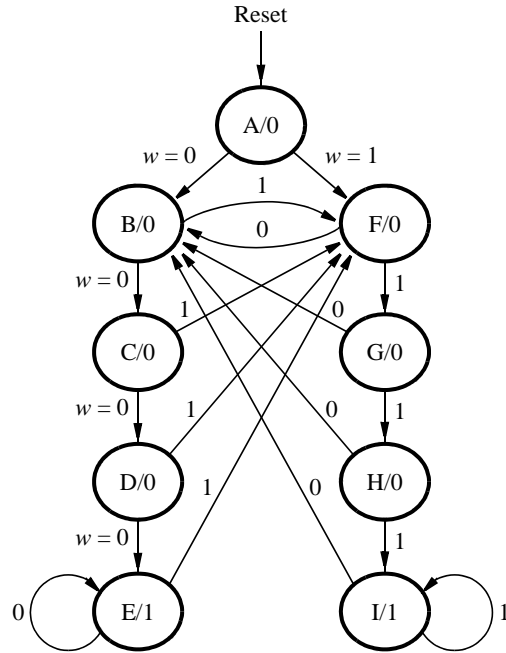

Figure 2: A state diagram for the FSM.
A state diagram for this FSM is shown in Figure 2. For this part you are to manually derive an FSM circuit that implements this state diagram, including the logic expressions that feed each of the state flip-flops. To implement the FSM use nine state flip-flops called y_8, \dots, y_0 and the one-hot state assignment given in Table 1.
For this part you are to write another style of Verilog code for the FSM in Figure 2. In this version of the code you should not manually derive the logic expressions needed for each state flip-flop. Instead, describe the state table for the FSM by using a VHDL CASE statement in a PROCESS block, and use another PROCESS block to instantiate the state flip-flops. You can use a third PROCESS block or simple assignment statements to specify the output z . To implement the FSM, use four state flip-flops y_3, \dots, y_0 and binary codes, as shown in Table 3.
4. Compile your project. To examine the circuit produced by Quartus open the RTL Viewer tool. Double-click on the box shown in the circuit that represents the finite state machine, and determine whether the state diagram that it shows properly corresponds to the one in Figure 2. To see the state codes used for your FSM, open the Compilation Report, select the **Analysis and Synthesis** section of the report, and click on **State Machines**.